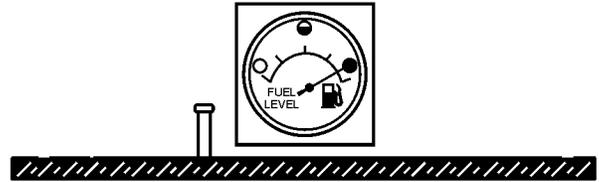

Figure 36. Full Fuel Tank
3. **NEVER overfill fuel tank** — It is important to read the fuel gauge when filling trailer fuel tank. **DO NOT** wait for fuel to rise in filler neck (Figure 36).